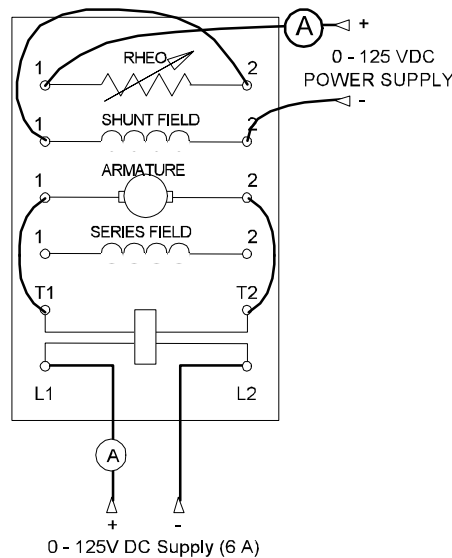

Figure 4. Connections of the Separately-Excited dc Motor.
- Replace the induction machine with the dc machine. Connect the dc machine (DM100A) as shown in Figure 4. Read the Hampden Manual instructions for this machine. Remove the resistive load from the dynamometer by turning all the switches off.